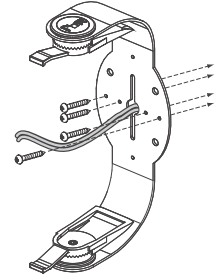

FIGURE 7:
3. Attach the mounting bracket to the mounting surface using hardware (not included) that is appropriate for the type of surface (see figure 7).